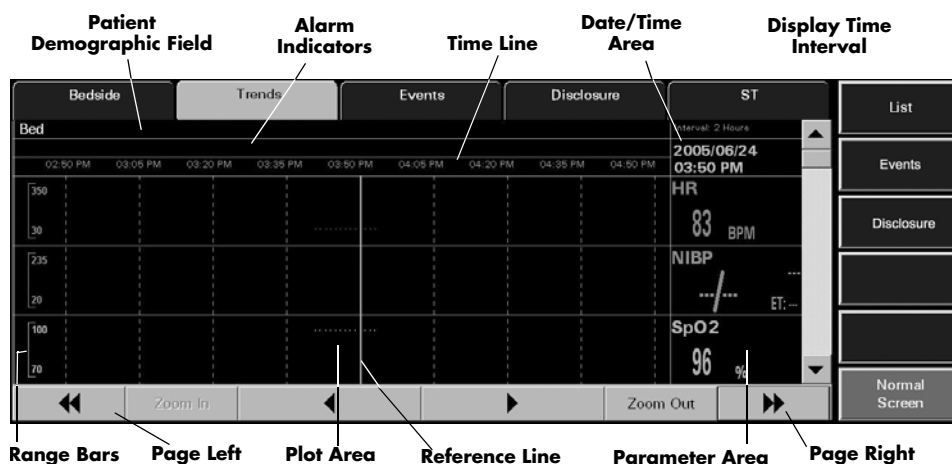

FIGURE 7-10 Trends Tab - Graphic View (Central Station, ViewStation, and WorkStation)
The **Graphic** view of the **Trends** tab (shown in FIGURE 7-10) provides a graphical representation of all of the trended digital data for a selected patient. All previously collected data is displayed, even if the parameter is not currently being monitored.
2. Select the **Trends** tab. The **Trends** tab is displayed in the default view. If the Graphic view is not the default view, select the **Graphic** sidebar button. The **Trends** tab is displayed in the **Graphic** view (shown in FIGURE 7-10).